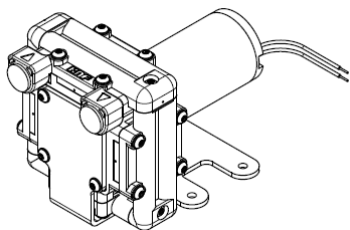

Fig. 7: Optimal mounting orientation / horizontal
- Mounting orientation → The pump can be mounted in any orientation. The priming and accuracy of the pump is optimal if installed as in the illustration (Fig. 7).